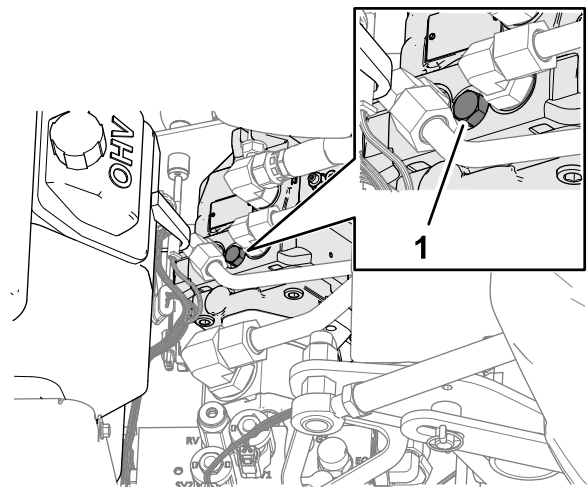

Figure 127
- Locate the cover for the bypass-valve screw between the engine and hydraulic pump as shown in Figure 127).